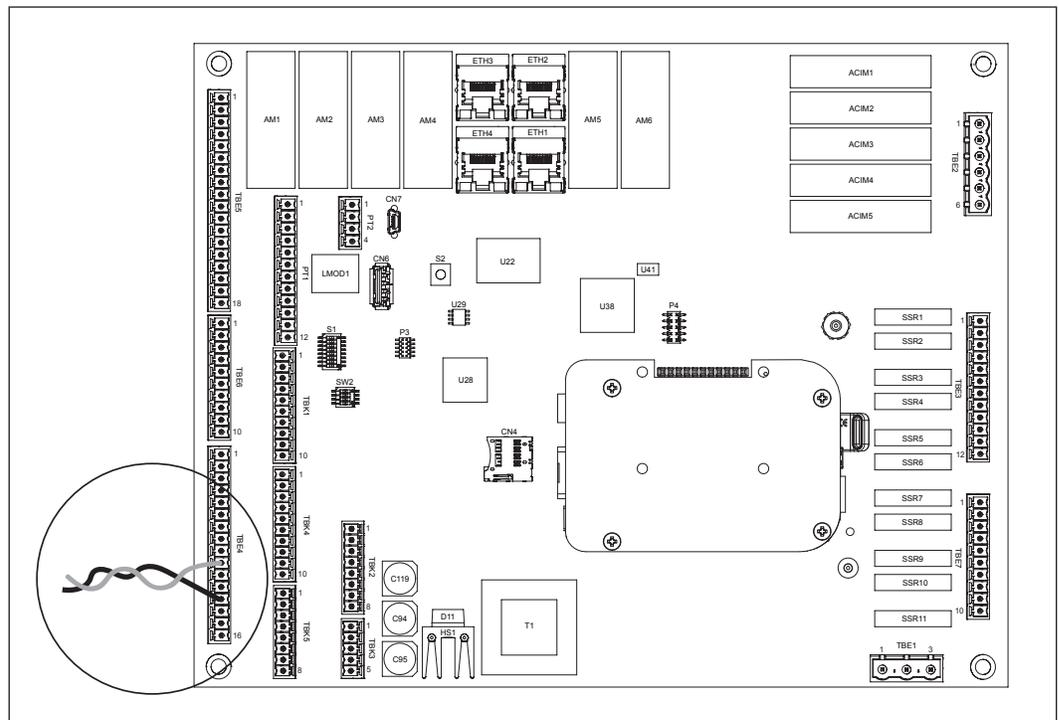

Figure 6 – Power connection for HMI
7. Install the Ethernet jumper and power cable that will be used to connect the new display module identified as the HMI assembly as shown in Appendix E from the A4M board assembly. Plug the supplied Ethernet jumper cable into RJ-45 connector ETH2 on the A4M board. The other end of this jumper cable will plug into the RJ-45 connector on the back of the display. Connect the supplied twisted pair power cable (red wire) to TBE4 terminal 10, or 11 or 12 and the common (black wire) to TBE4 terminal 13 or 14 or 15; refer to Figure 6.